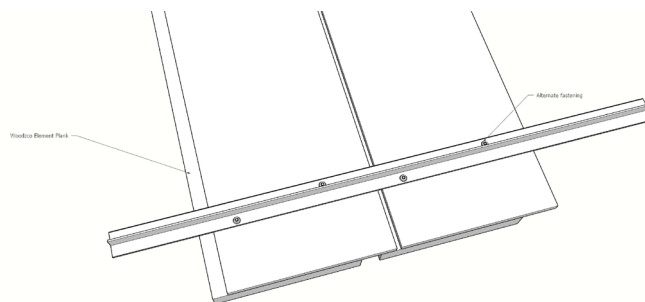

Figure 1. Direct attachment of an ELEMENT plank with screws to a suspension system.
For direct screw fastening, it is recommended to use #8 round head screws with a length of 3/4 inch. The screws should be installed alternately on each side of the suspension tee. It is recommended to install two (2) screws per plank at each suspension tee. (**Fig. 1**).